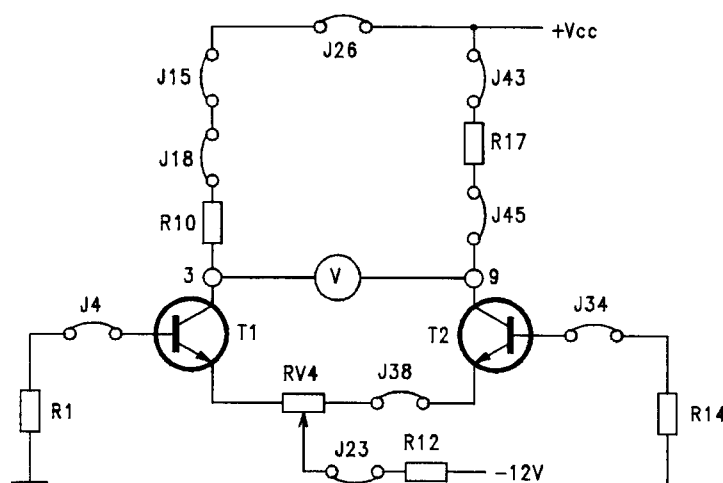

fig.B28.2
- Insert jumpers J4, J15, J18, J23, J26, J38, J34, J45, J43 to produce the circuit of fig.B28.2
- In the previous circuit, disconnect the function generator and the oscilloscope, to take the circuit back to the configuration in figure B28.2